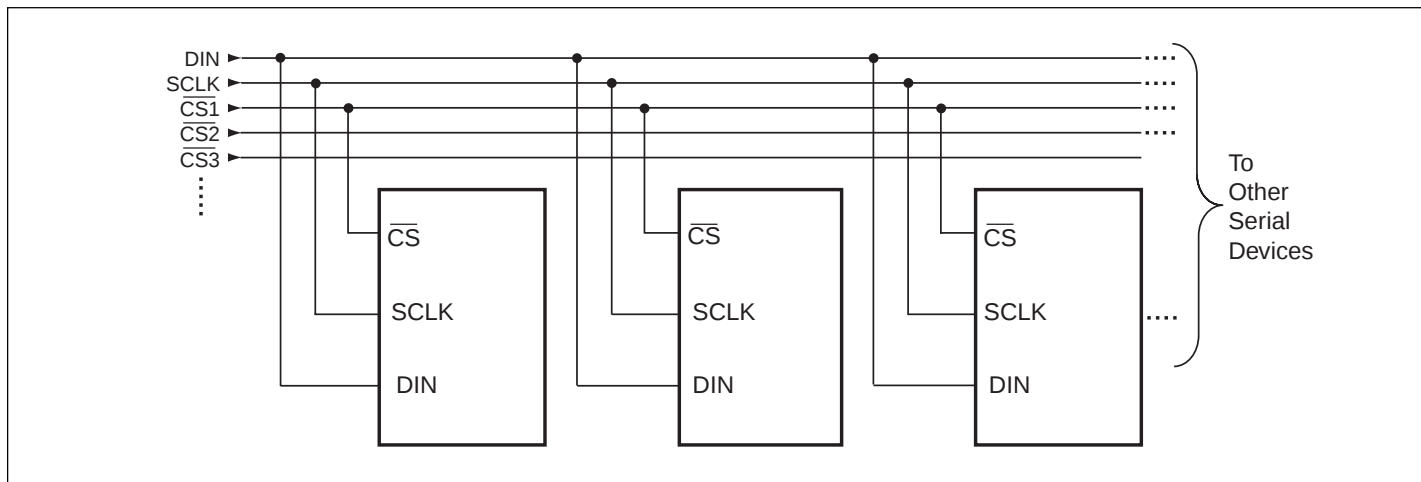

Figure 5. Addressable Serial Interface
6. See Figure 5. Off isolation = $20\log_{10} V_{COM}/V_{NO}$; V_{COM} = output. NO = input to off switch.
6. See Figure 5. Off isolation = $20 \log_{10} V_{COM}/V_{NO}$, V_{COM} = output. NO = input to off switch.
For a simple interface using several PS395s, "daisy chain" the shift registers as shown in Figure 5. The $\overline{CS}$ pins of all devices are connected together, and a stream of data is shifted through the PS395s in series. When $\overline{CS}$ is brought high, all switches are updated simultaneously. Additional shift registers may be included anywhere in series with the PS395 data chain.